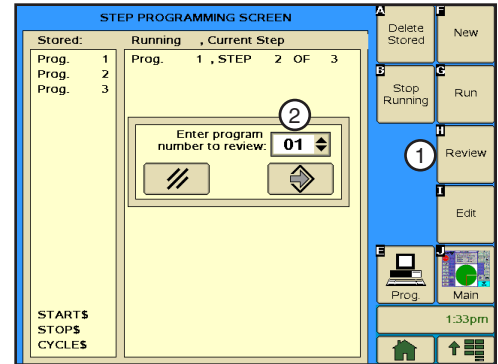

Figure 117-1 1. Review Button
1. Push **Prog** and **Step Prog.** to view the Step Program screen. Refer to Figure 117-1.